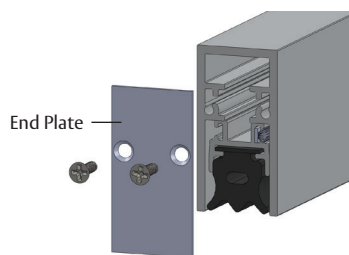

Figure 4 - Properly Installed End Plate
3. Install the end plate opposite the plunger, with the "This Side In" sticker towards the ADB, using the end plate screws as shown in Figure 4 (PEMKO logo should be visible).